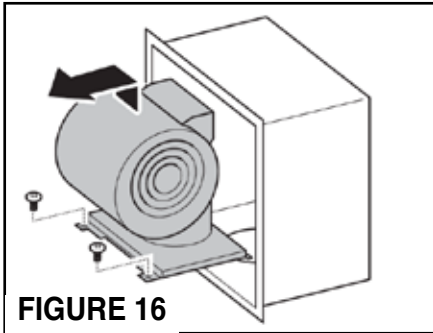

FIGURE 16
- When venting to the rear with the IBDD600 blower mounted on the front of the unit, some modification to the blower box is required (FIGURE 16)